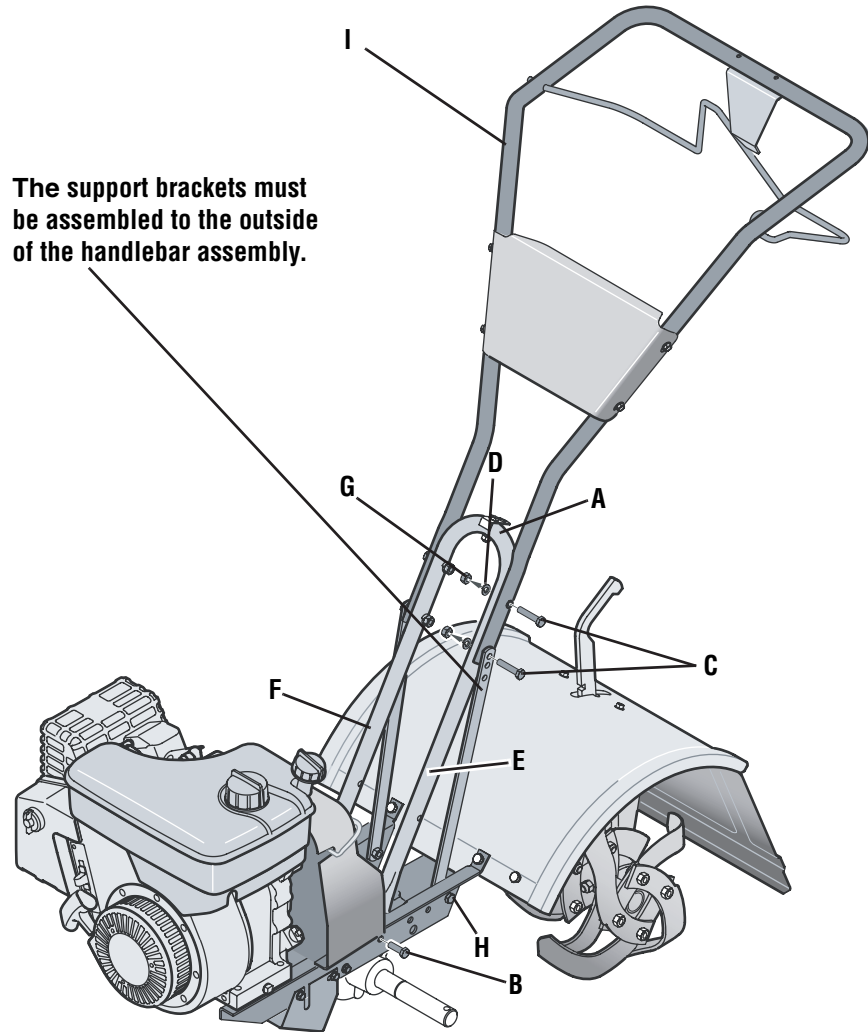

Fig. 2.2: Attach handlebar.
1	Handlebar Support (see A, Fig. 2-2)
1	Handlebar Assembly (see K, Fig. 2-2)
1. Loosely attach the legs of the handlebar support (A, Fig. 2-2) to the inner sides of the tiller frame using two 3/8"-16 x 3/4" hex hd. screws (B), 3/8" flat washers, and 3/8"-16 hex locknuts.
2. Using two 5/16"-18 x 1-1/2" screws (C), 5/16" split lock washers (D) and 5/16"-18 hex nuts (G), loosely attach the handlebar support (A) using the upper holes. Tighten the two screws securely.
- There are three height adjustment holes in the two handlebar support brackets (E and F, Fig. 2-2). Use a setting that will position the handlebars at approximately waist level when the tines are 3"-4" into the soil. Loosely attach the support brackets to the outside of the handlebar assembly (I) using two 5/16"-18 x 1-1/2" screws (G), 5/16" split lock washers (D) and 5/16"-18 hex nuts (G). NOTE: If a support bracket will not move, loosen attaching screw (H) and nut.